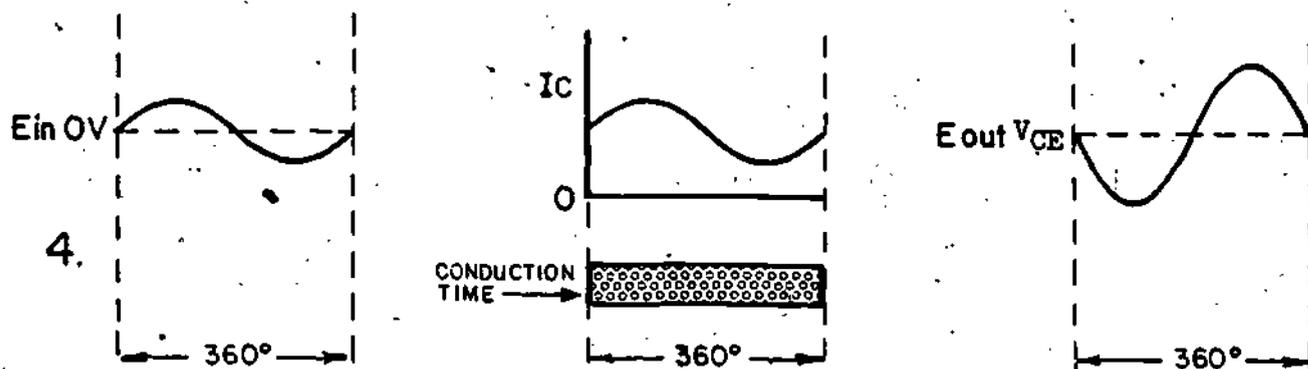

Figure 28
(30) You have learned that amplifiers can be biased to operate either Class A or Class B. We will now continue our discussion about classes of amplifier operation. Figure 28 shows the operation of Class A amplifiers.
In the center diagram of Figure 28, the bar chart shows the duration of time the transistor conducts during one cycle of the input signal. This same diagram also shows that Class A amplifiers have forward bias, and therefore will conduct even when no input signal is present. An important feature of Class A amplifiers is that the bias is set high enough so that conduction will occur over the entire input cycle. Notice that the output signal is  $180^\circ$  out of phase with the input signal. This is a typical output from common emitter amplifiers.